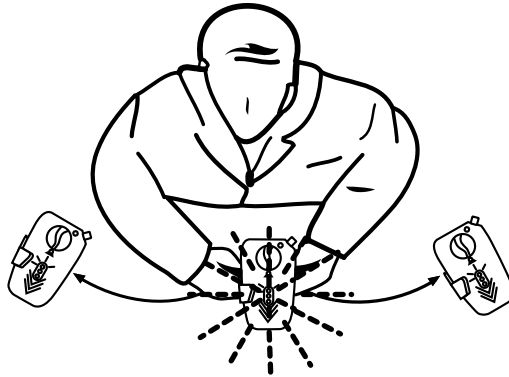

Figure 1-15. Rotating the Transceiver.
- Slowly rotate the transceiver 120 degrees from side to side to determine direction of the strongest signal. See Figure 1-15.